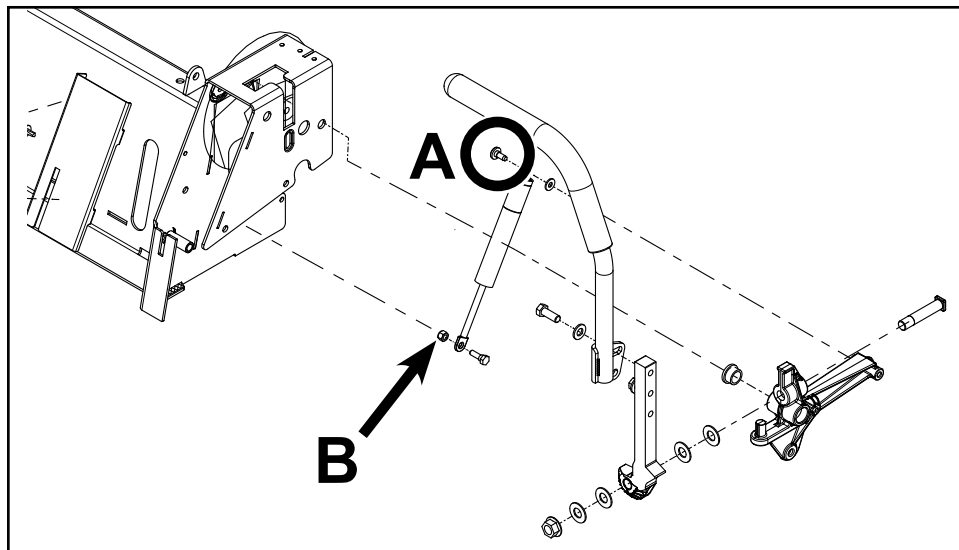

Fig. 017
1. Install the washer and upper damper eyelet to the actuator arm and torque the shoulder bolt (A) to specification – 7.5 ft-lbs. (10 Nm).
2. Install the lower damper eyelet to the Control Box and torque the nut (B) to specification – 7.5 ft-lbs. (10 Nm).
4. Check the motion control system for proper function. (Fig. 017)